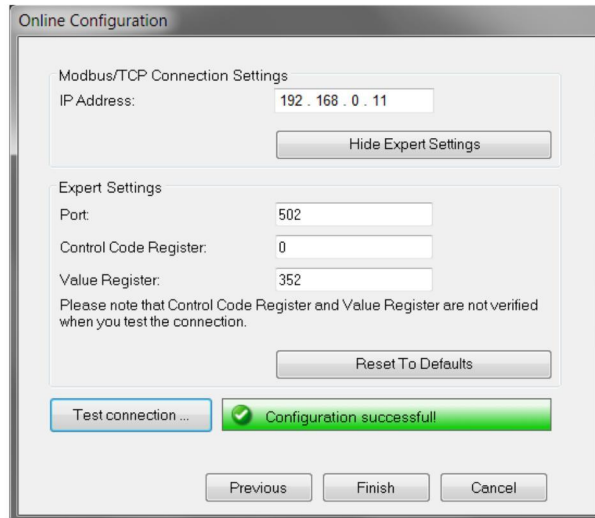

Figure 4-38 Making the connection settings
- Set the “Expert Settings” as shown in Figure 4-38.